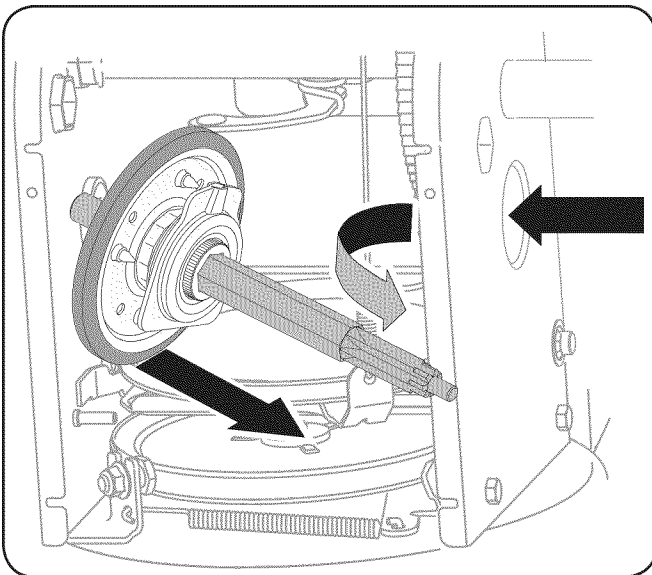

Figure 8-10
- Carefully position the hex shaft downward and to the left before carefully sliding the friction wheel assembly off the shaft. See Fig. 8-10.